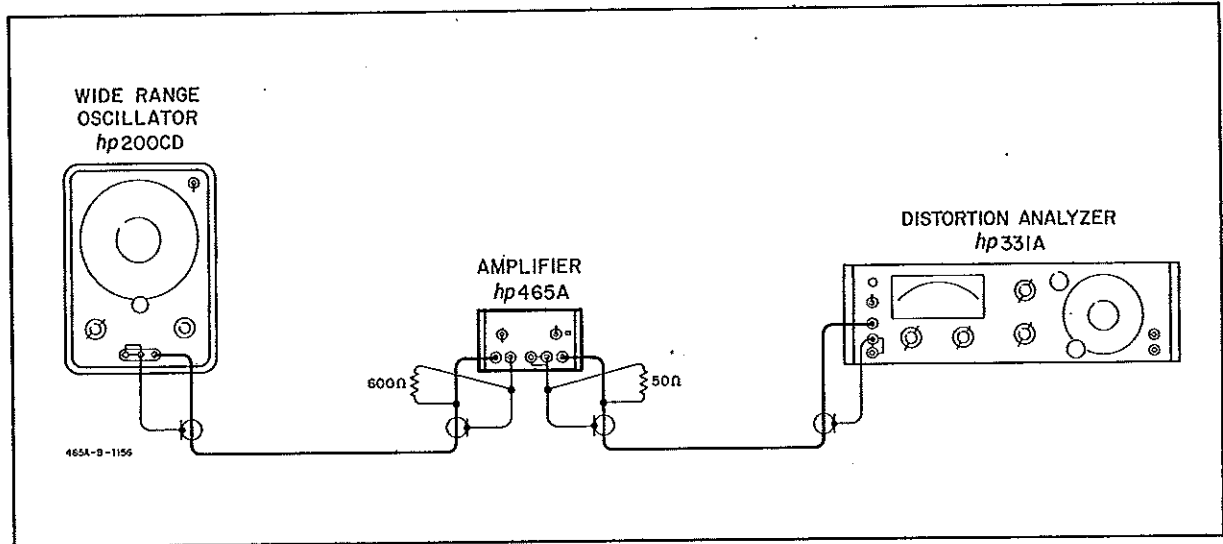

Figure 5-2. Distortion Check
- a. Figure 5-2 describes the recommended test arrangement. Set the 465A GAIN to 20 dB.